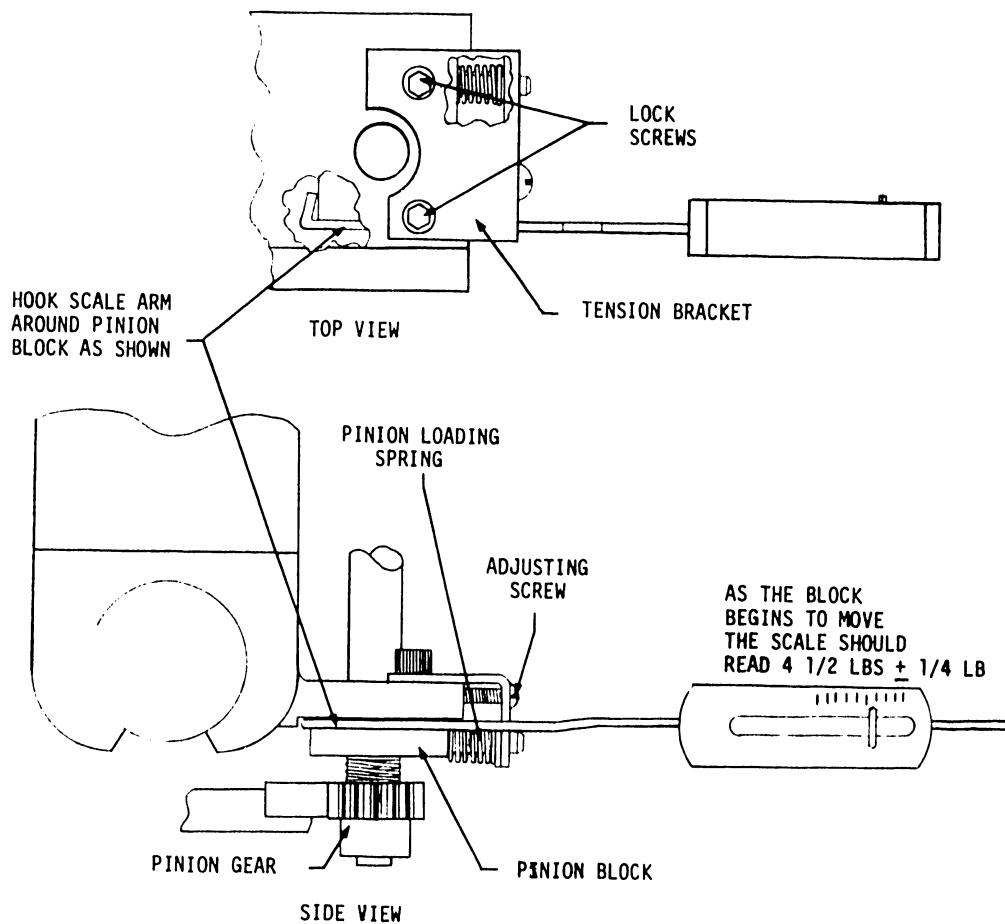

FIGURE 11
- 1) When pulling on the pinion block with a spring scale, the block should begin moving at 4.5 lbs. \pm .25 lb. See Figure 11.